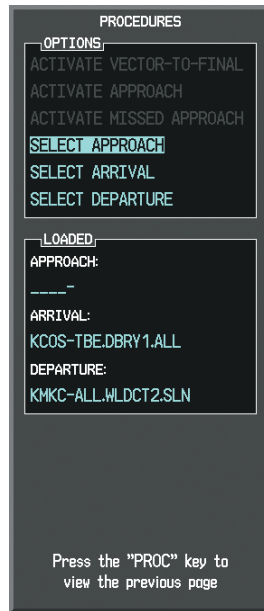

Figure 5-124 Procedures Window
b) 'SELECT APPROACH' should be highlighted as shown in Figure 5-124.